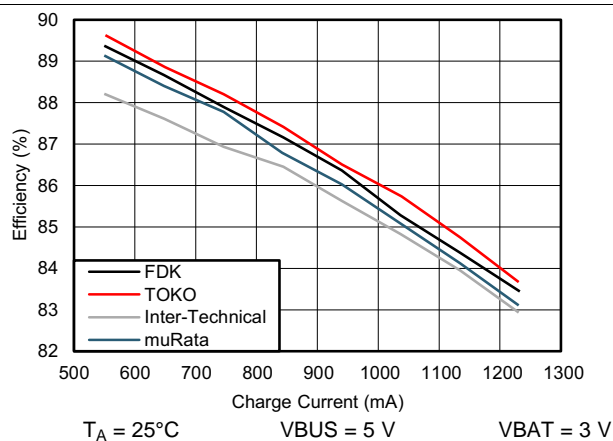
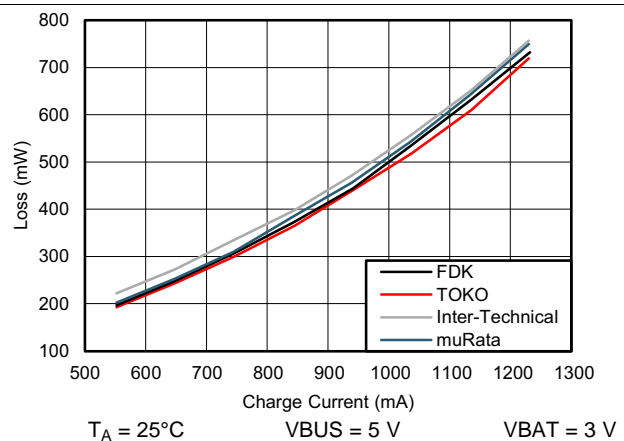

Figure 26. Measured Battery Charge Efficiency
Figure 27. Measured Battery Charge Loss
4. Measured efficiency and total power loss with different inductors are shown in Figure 26 and Figure 27. SW node and inductor current waveform are shown in Figure 2.